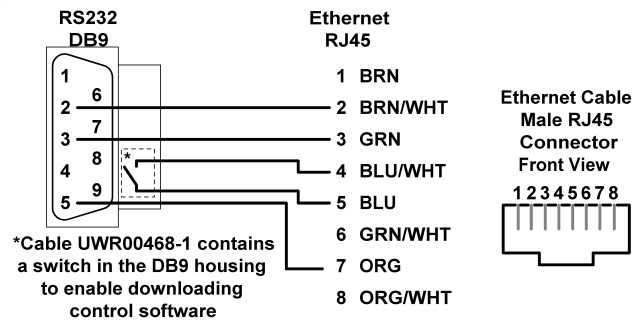

Figure 1.2 — RS232 Network Connection
- ☐ **4.2:** Connect the RJ45 port on the front of the F7 drive to the controller serial port. Use a DB9 to RJ45 adapter with a standard Ethernet CAT-5 patch cable or use Yaskawa cables, part numbers UWR00468-1 or UWR00468-2. **Do NOT connect this cable to an Ethernet port** on the controller, as damage to the controller and/or F7 drive may result. Refer to *Figure 1.2 – RS232 Connections*.